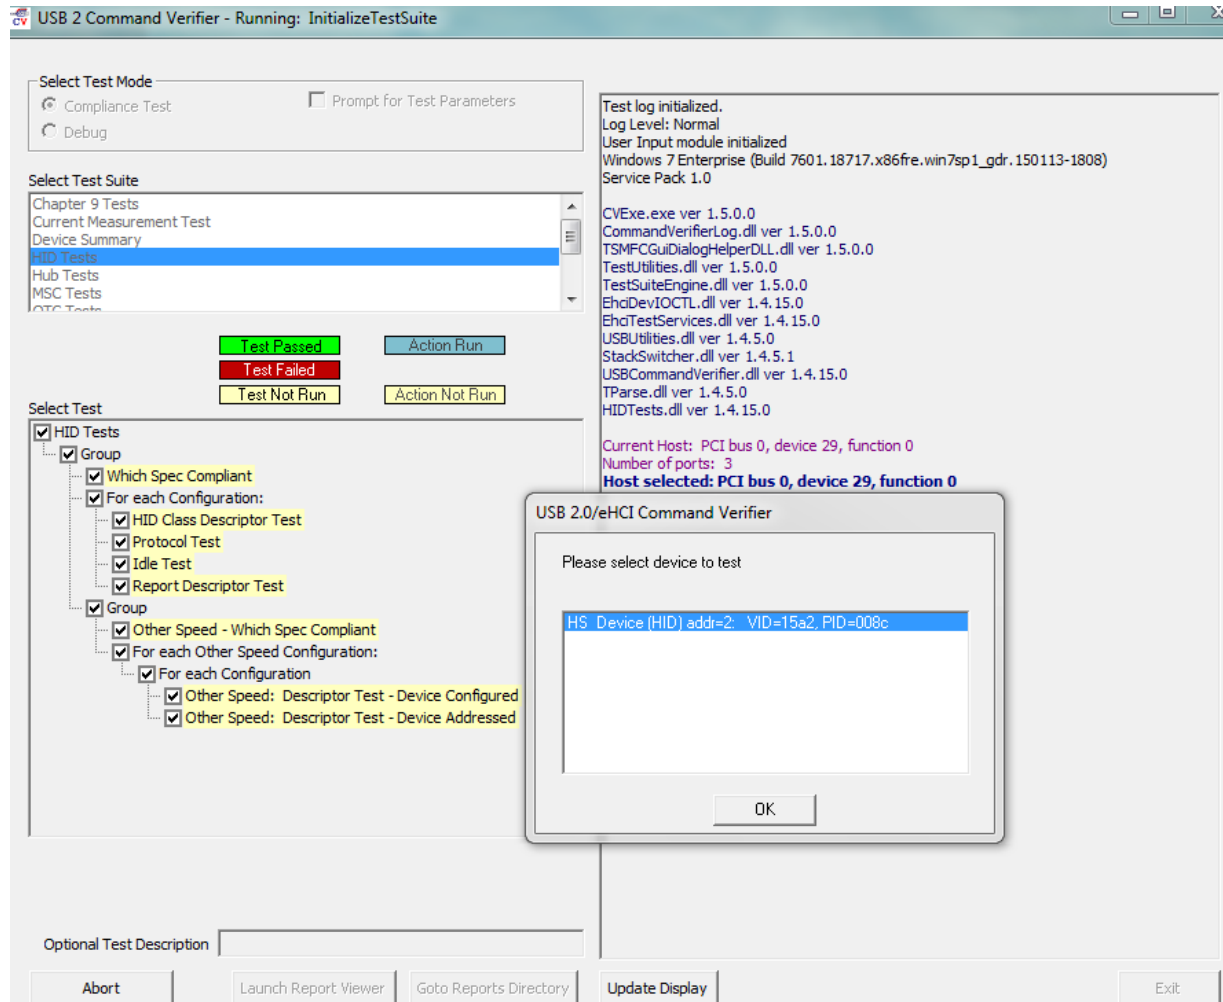

Figure 89. USB20CV HID Tests
3. Select the DUT device in the list and click on Ok as shown in Figure 89.